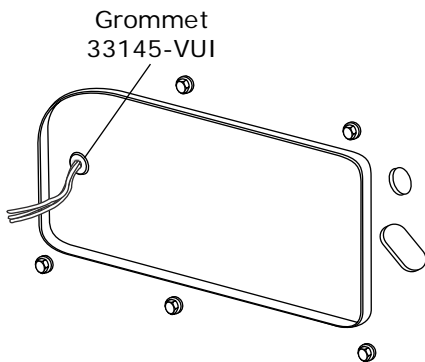

Figure 17
3. Route A/C wires through 3/8" grommet as shown in Figure 17, below (12 volt/ground/binary switch/heater valve).